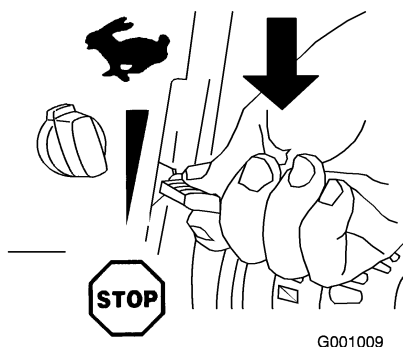

Figure 25
1. Move the throttle to the Stop position (Figure 25).